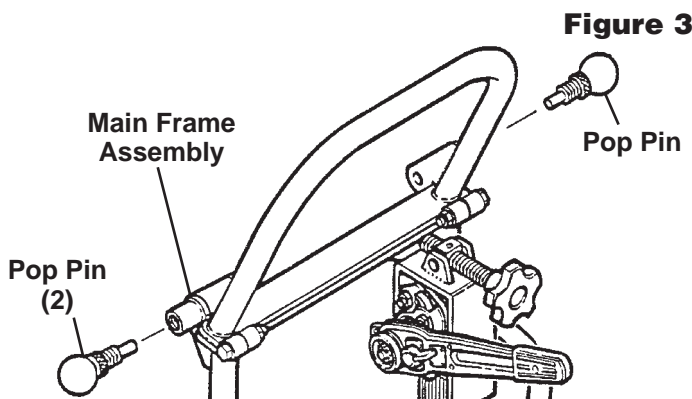

Figure 3
4. Thread a pop pin into each side of the main frame assembly as shown in Figure 3.